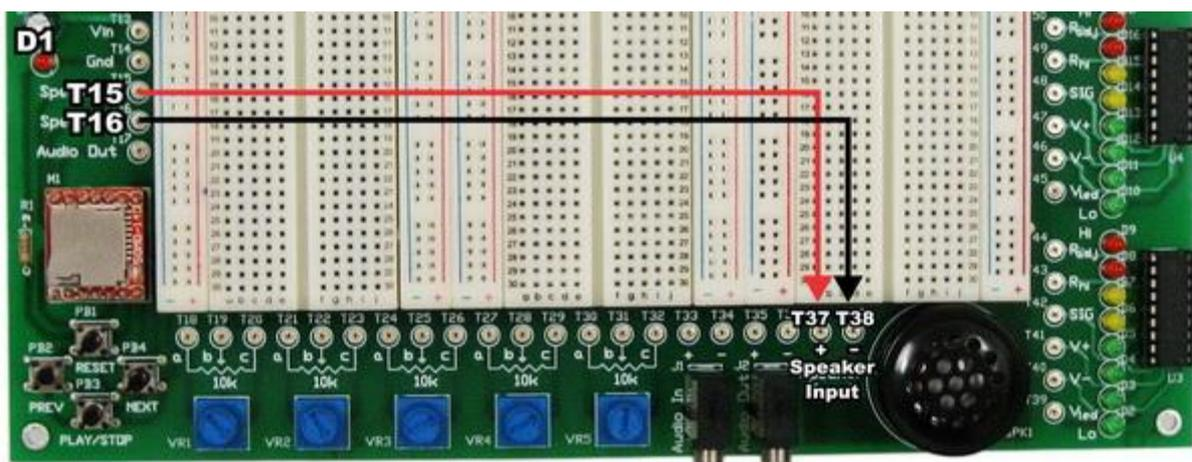

Figure 3 – Connections of T15 and T16 to the On-Board Speaker
- Next, connect **T15 (Speaker+)** and **T16 (Speaker-)** to **T37** and **T38** respectively, as shown in Figure 3.
- The red LED **D1**, as shown in Figure 3, will blink for a moment if +5 V is correctly supplied to the ME3100 Analog Circuit Design kit.